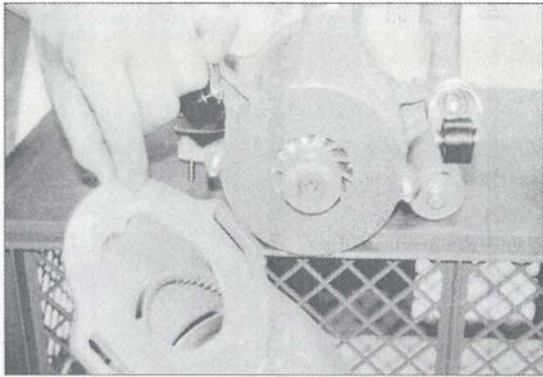

Fig. 22 Loosen the two screws with which the attachment is fastened and remove the attachment.
- 4 Grab the ELAN at the suction muff and press the attachment forward with your thumb at the same time. Make sure that the distances between the threaded studs in the long holes are equal on both sides (Fig. 22).